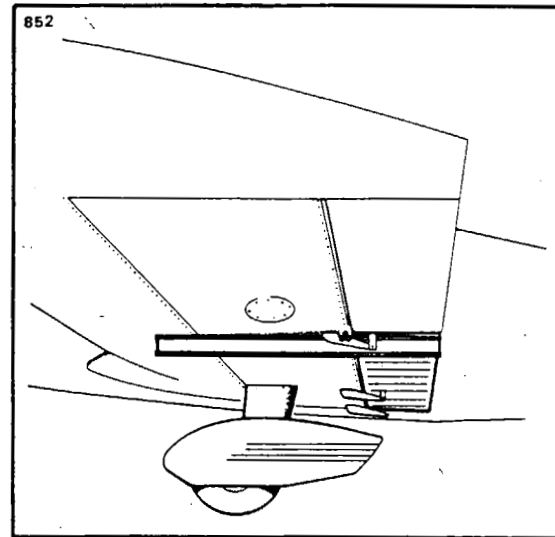

Figure 5-17. Flap Rigging Tool
g. To check up-neutral position of the flaps, place a flap rigging tool as shown in Figure 5-17 against the underside of the wing and flap as close as possible to the outboard end of the flap without contacting any rivets. The tool must be positioned parallel with the wing ribs with the aft end of the tool even with the trailing edge of the flap. (This tool may be fabricated from dimensions given in Fig-